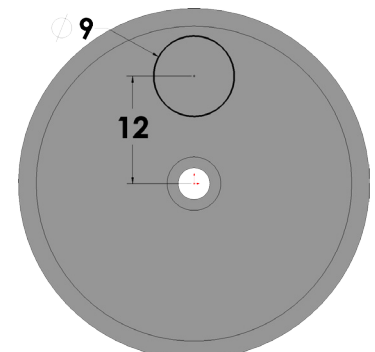

Fig. 16
Step 6. Click **Smart Dimension**  (S) on the Sketch toolbar.
Step 7. Add dimensions, **Fig. 16**.